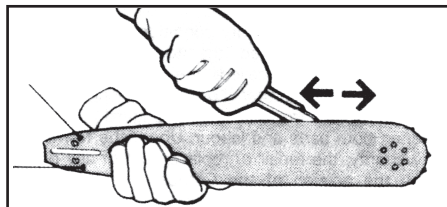

Fig. 25
1. When you have finished working, clean out the groove and the oil passages, with a special scraping hook (Fig. 25).